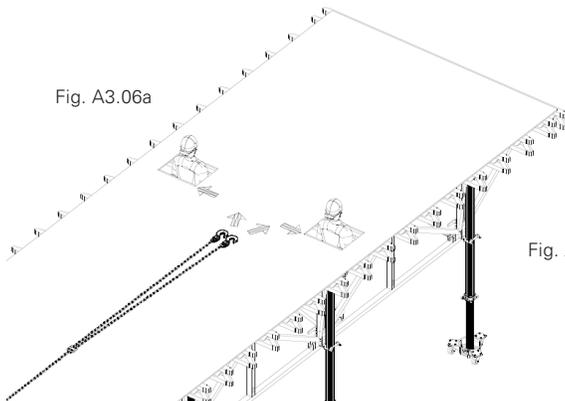
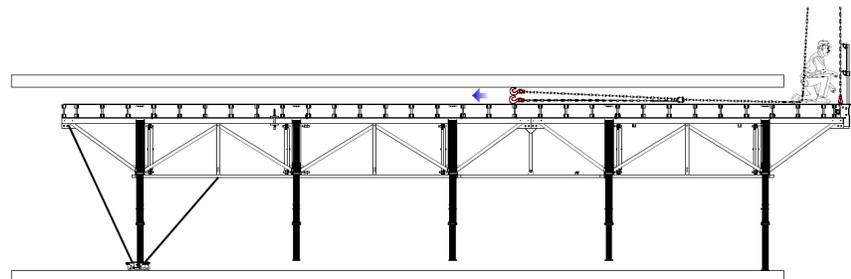

Fig. A3.06a
Fig. A3.06
6. Attach crane hooks to Crane Eye Adaptors (Fig. A3.06) and to SKYTABLE Lifting Clamps (access by trap doors). (Fig. A3.06a)